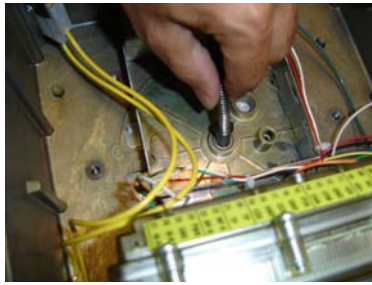

Figure 3. Inserting Input Shaft Into Base Of Display Head
4. Place the thin washer from the kit onto the input shaft against the underside of the flange on the input shaft and then CAREFULLY bend the spring to insert the end of the input shaft into the center hole on the bottom of the EMR³ display head (Figure 3). Install the meter coupling as instructed in the EMR³ Installation Guide, Manual No. 577013-758.